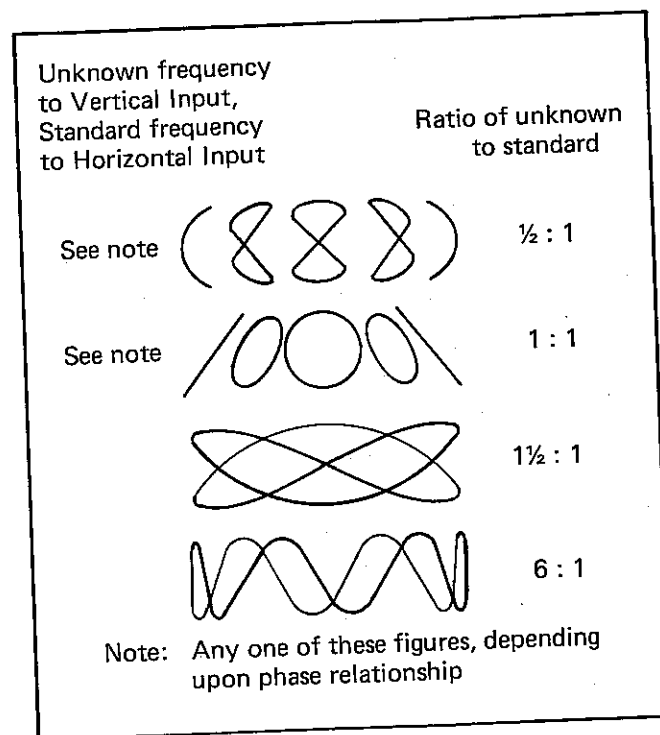

Fig. 27. Lissajous waveforms used for frequency measurement.
4. The resulting pattern, called a Lissajous pattern, shows the ratio between the two frequencies. See Fig. 27.